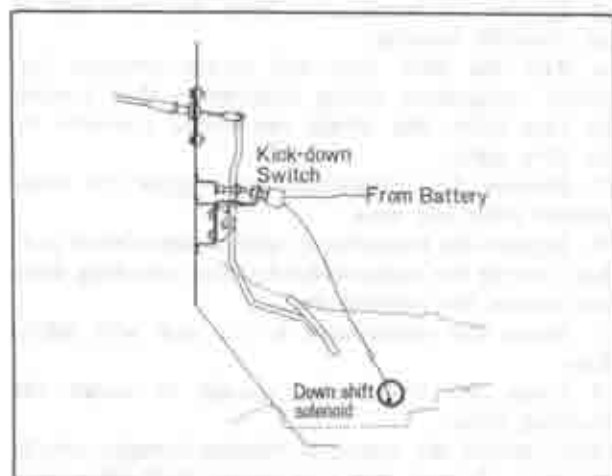

Fig. 7B-5 Kick-down switch adjustment
2. Loosen the kick-down switch attaching nut and adjust the switch to engage when the accelerator pedal is at 7/8 of full pedal travel or more. The down shift solenoid will click when the switch engages (Fig. 7B-5).